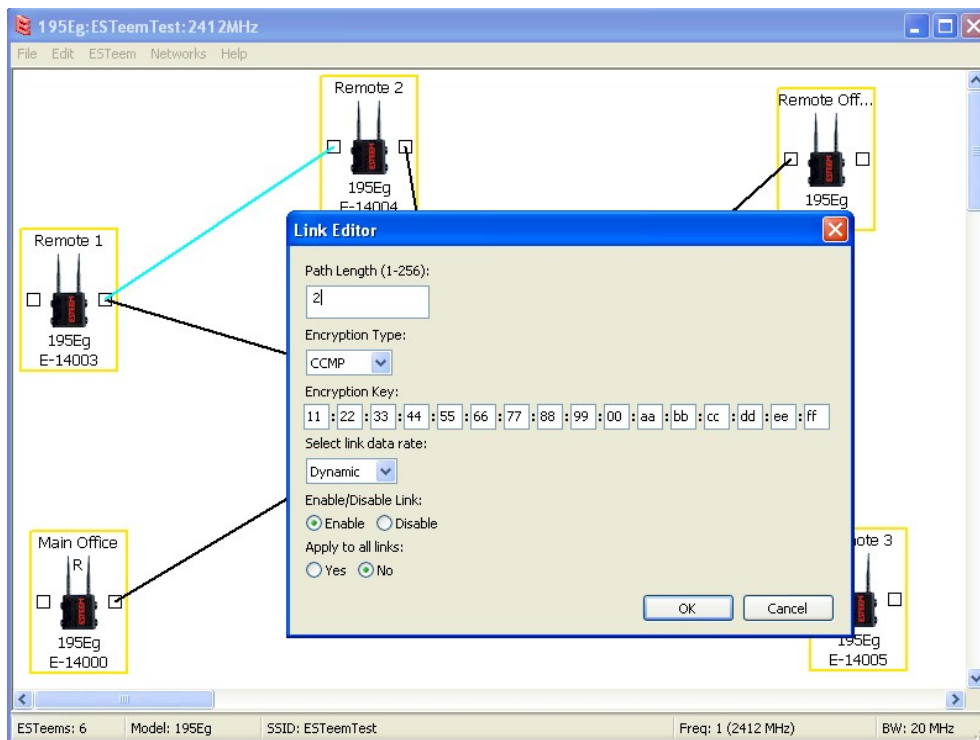

Figure 16: Backup Link Configuration
3. To create the backup link between Remote 1 and Remote 2 and the other backup link from Remote 2 to the Remote Office, draw a wireless connection as you would on the primary link. Double-click on the line created. The Link Editor box will be displayed (Figure 16). Any Path Length greater than 1 will display as a dashed line